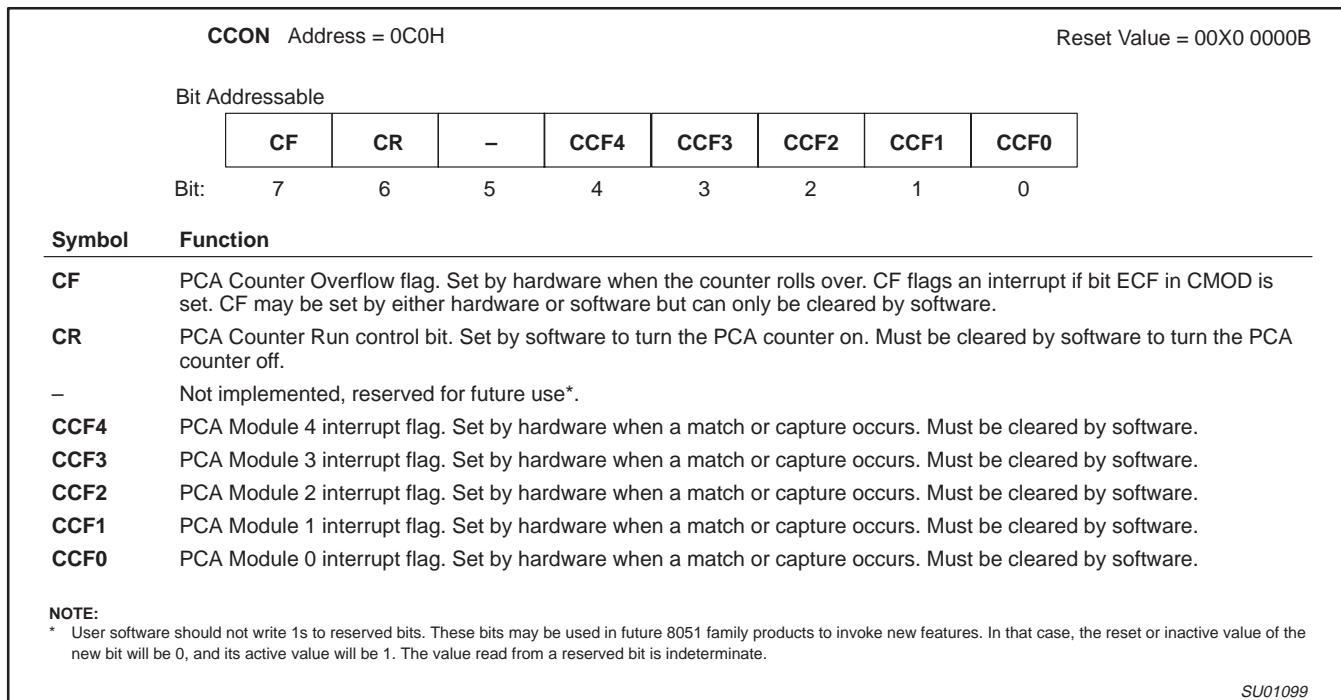

Figure 19. CCON: PCA Counter Control Register
The CCON SFR contains the run control bit for the PCA and the flags for the PCA timer (CF) and each module (refer to Figure 19). To run the PCA the CR bit (CCON.6) must be set by software. The PCA is shut off by clearing this bit. The CF bit (CCON.7) is set when